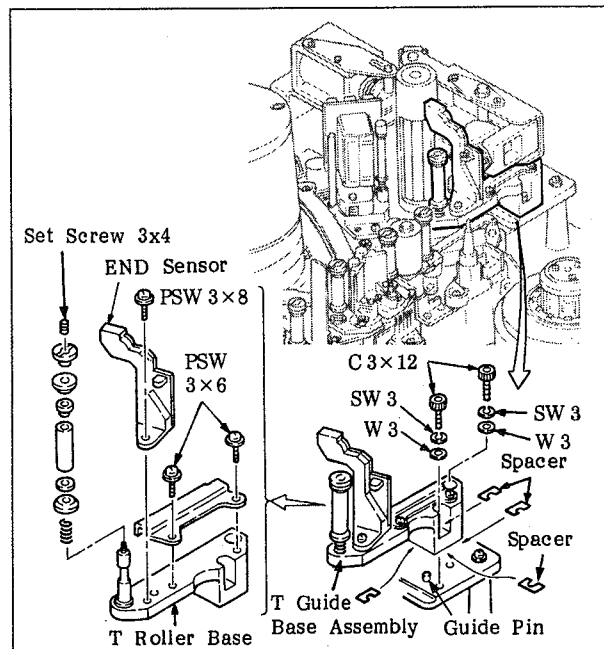

Fig. 6-118 Replacement of the T Roller Base
2. Remove the T guide base assembly by referring to Figure 6-118.
9. Remove the END sensor. (Figure 6-118)
11. If it is not met, insert one of the following spacers in the place shown in Figure 6-118.